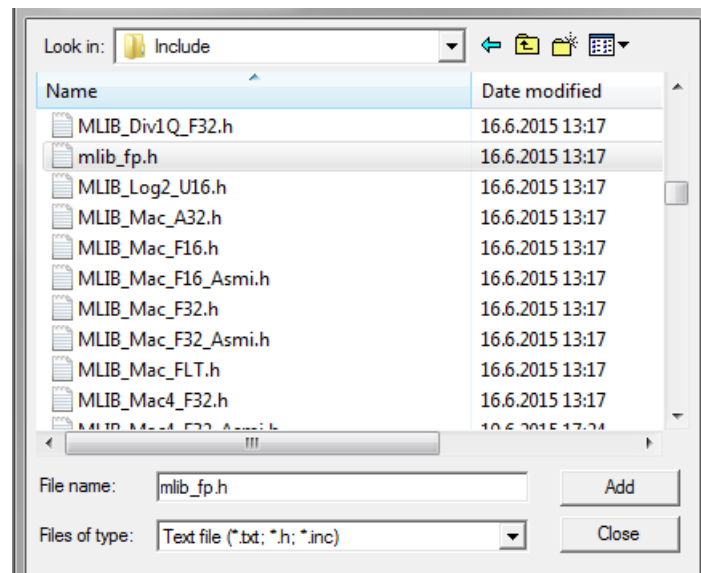

Figure 1-22. Adding .h files dialog
4. Navigate into the library installation folder C:\NXP\RTCESL\CM7F_RTCESL_4.3_KEIL\MLIB\Include, and select the *mlib_fp.h* file. If the file does not appear, set the Files of type filter to Text file. Click Add. See Figure 1-22.